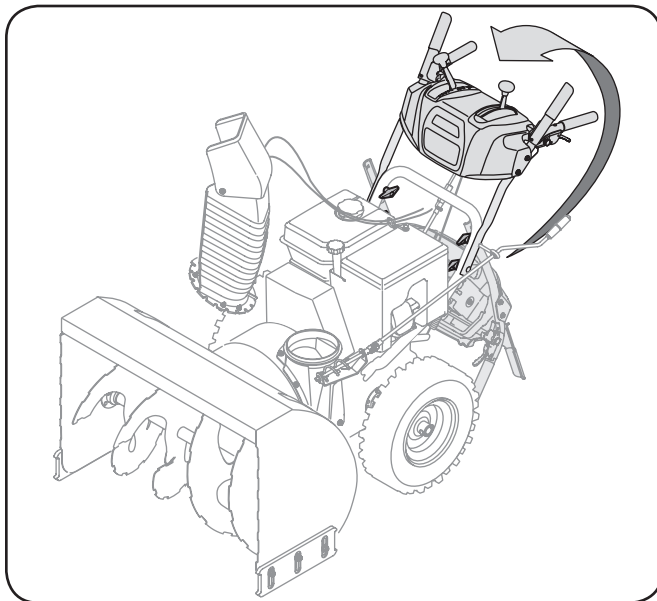

Figure 3-1
2. Remove the lower plastic wing nut, belleville washer and carriage bolt from each side of the upper handle; then raise the upper handle assembly until it snaps over the lower handle. See Figure 3-1.